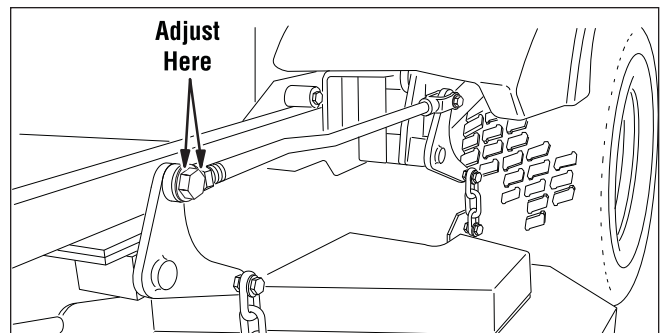

Figure 46. Adjust Deck Lift Rod Timing
7. Refer to Figure 46. To adjust the deck lift rod, loosen the jam nut on the front ball joint then remove the 1/2" hardware fastening the ball joint to the lift pivot arm. Turn the ball joint clockwise to shorten the distance between the rod pivots or counter-clockwise to lengthen the distance between the rod pivots. Reinstall the ball joint on the lift pivot arm and secure with the 1/2" hardware previously removed. Tighten the jam nut against the lift rod.